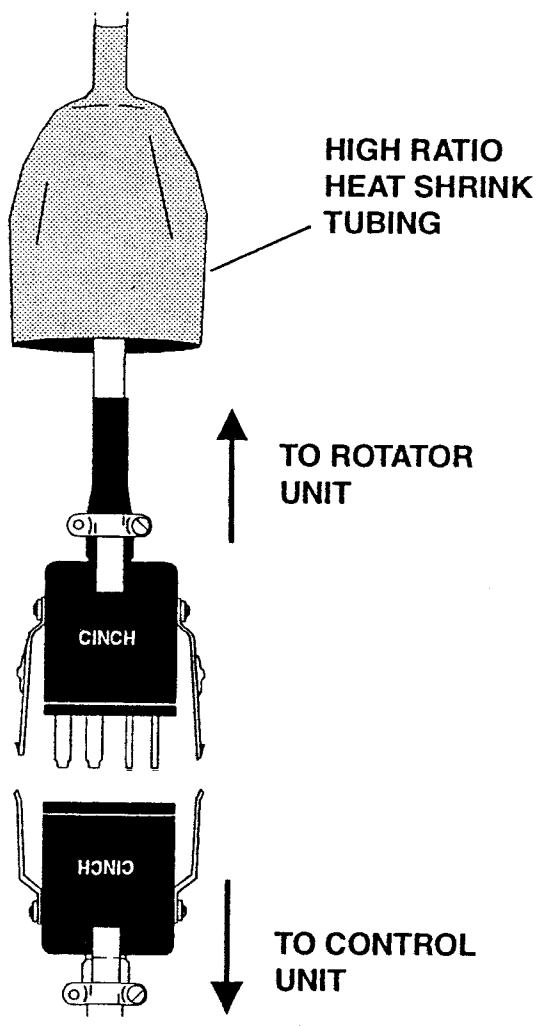

Figure 3
A. Tower Mounted as per Figure 3	15 square feet (1.4 m ²) of wind surface area